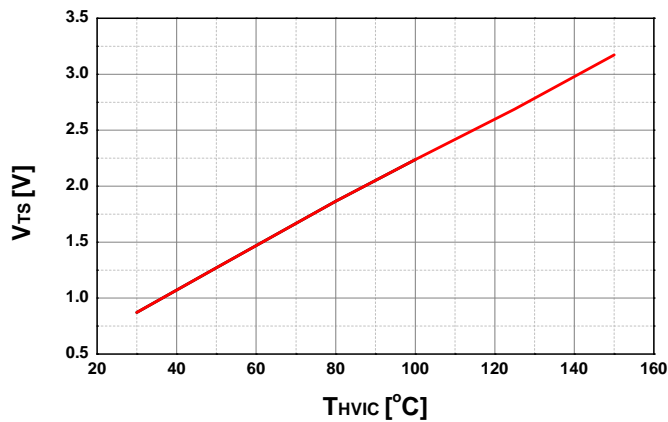

Figure 6. Temperature Profile of V_{TS} (Typical)
- t_{ON} and t_{OFF} include the propagation delay of the internal drive IC. Listed values are measured at the laboratory test condition, and they can be different according to the field applications due to the effect of different printed circuit boards and wirings. Please see Figure 6 for the switching time definition with the switching test circuit of Figure 8.